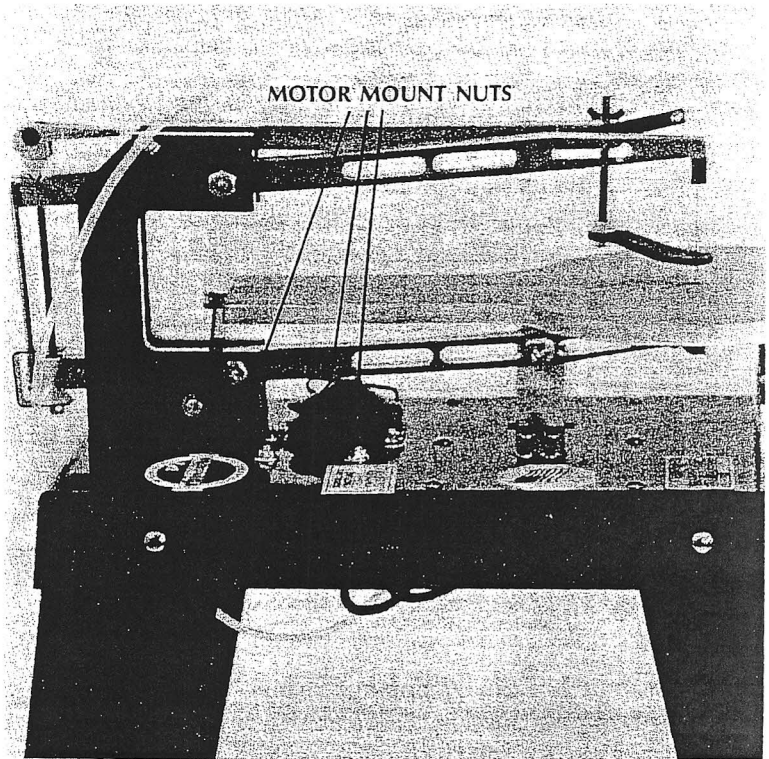

Fig. 14
2. Loosen and remove the two 1/4" carriage bolts that fasten the HA-25 Bellows Bracket to the saw base. Raise the HA-24 Rubber Bellows off of the HA-111 Saw Base so that the 1/4" whiz nut beneath it may be reached (Fig. 14).